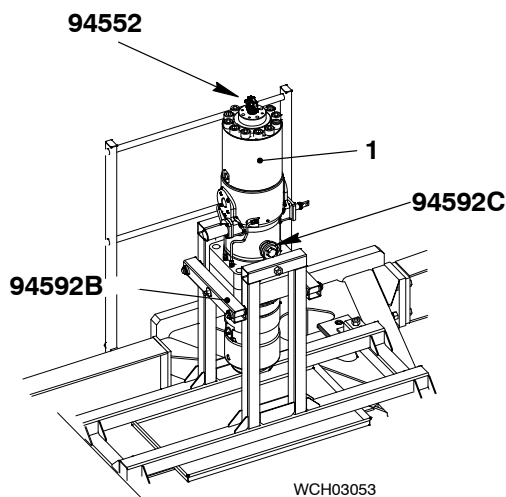

Fig. 25
- 10) Turn the fuel pump (1, Fig. 25) until the pump cover points up.
- 11) Attach the lifting tool (94552) to the fuel pump pump (1).